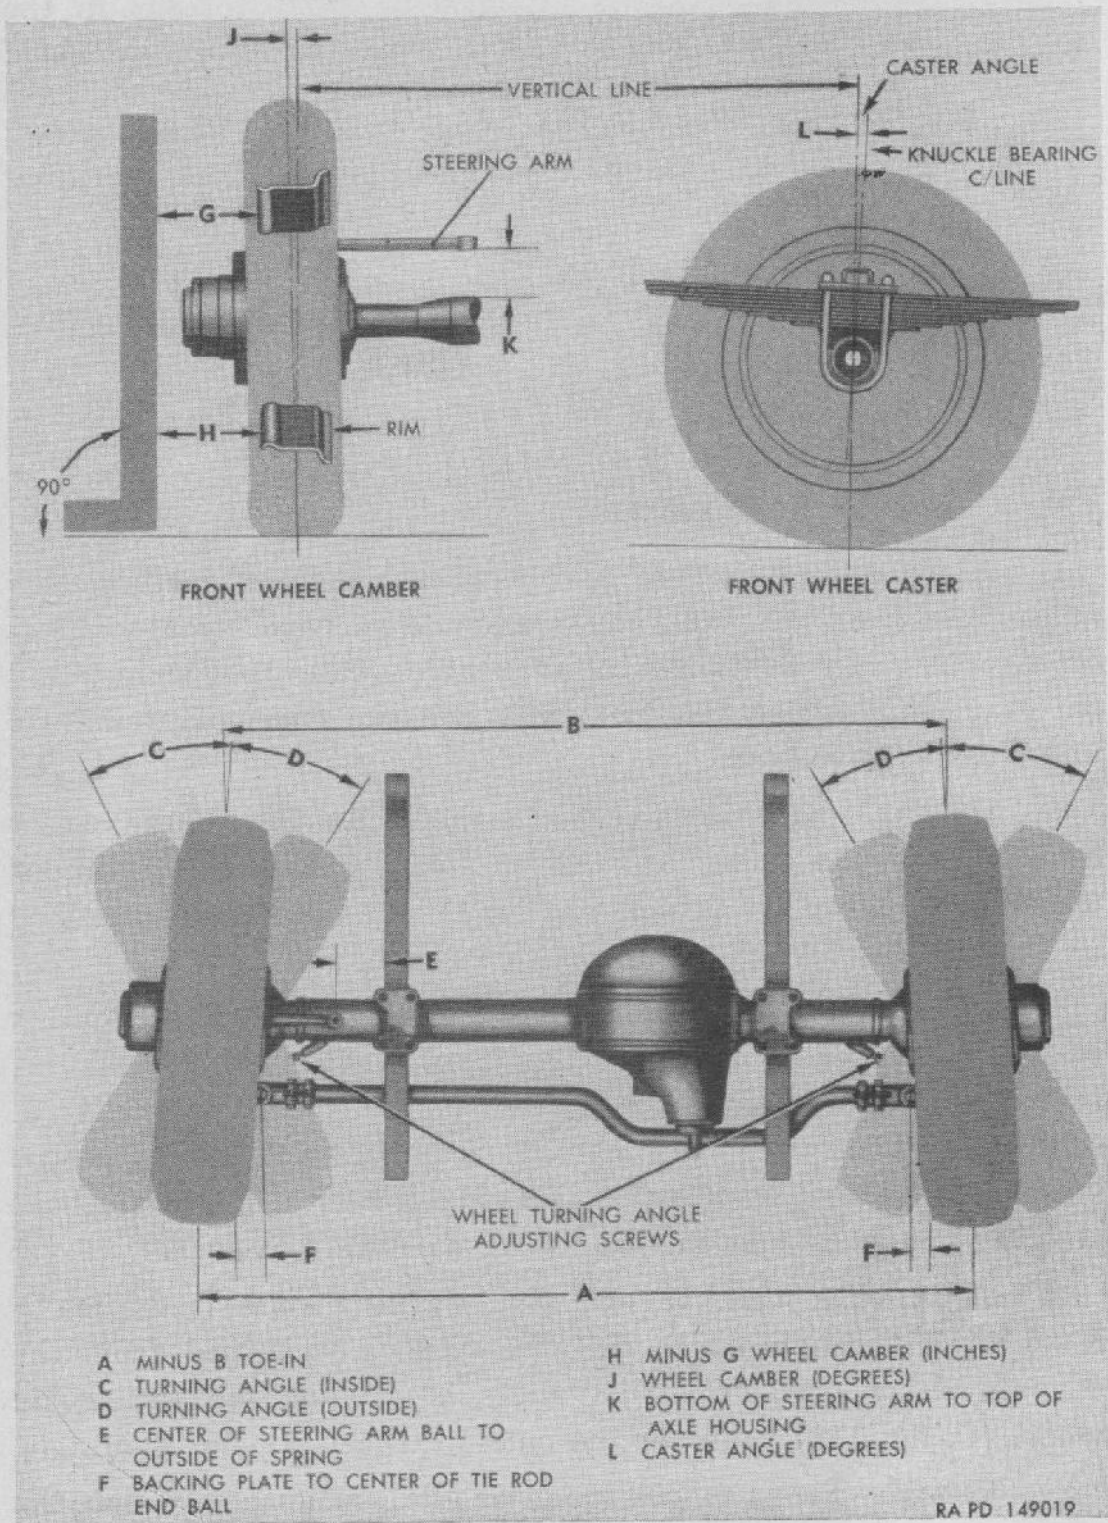

Figure 112. Front-wheel-and-axle-alinement chart.
b. CASTER. Front-axle caster is the inclination of the center line through the upper and lower steering knuckle trunnions toward the rear of the vehicle (L, fig. 112). Caster is established by design, therefore no adjustment can be made.
c. CAMBER. Front wheel camber is the outward inclination of the wheels as viewed from the front of the vehicle; that is, the wheels are farther apart at the top than at the bottom (J, fig. 112). There is no adjustment for camber; however, loose wheel bearings, loose steering knuckle trunnion bearings, bent steering knuckle, or bent axle housing will affect camber.
d. TURNING ANGLE. Front wheel turning angle is the maximum angle through which the wheels may be turned from the straight-ahead position. This angle is greater for the inside wheel (C, fig. 112) than for the outside wheel (D, fig. 112).
e. TOE-IN. Front wheel toe-in is the amount by which the wheels are closer together at the front than at the rear, with the wheels in a straight-ahead position (A minus B, fig. 112). Camber causes both wheels to have a tendency to turn outward from the vehicle. Toe-in counteracts this tendency and causes the wheels to roll straight ahead with no scuffing action.